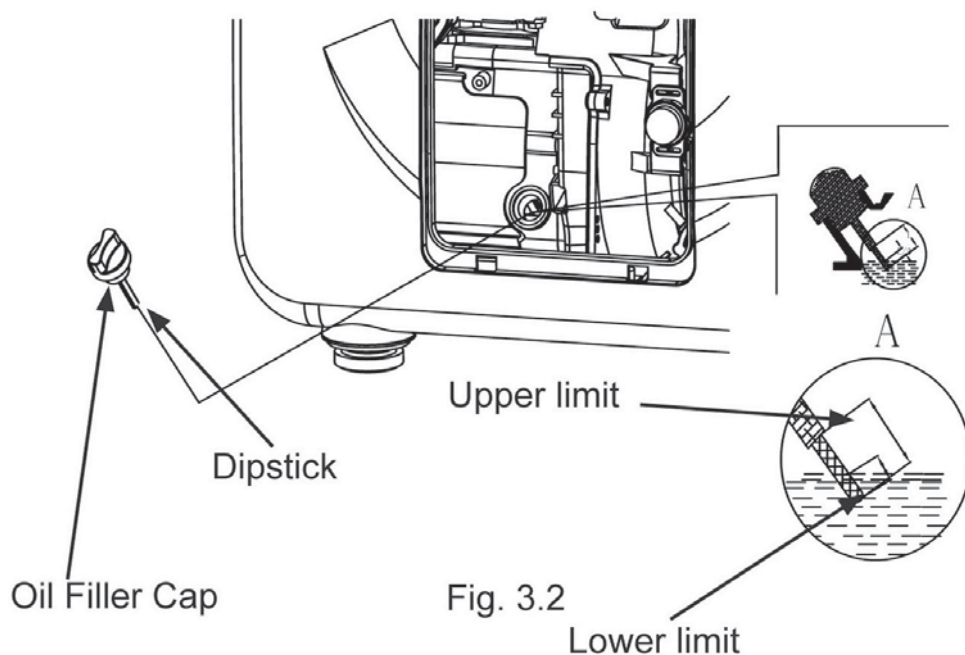

Fig. 3.2
2. Remove the oil filler cap and wipe the dipstick clean (Refer to Fig. 3.2 for HY1000Si or HY2000Si HY3000Si)